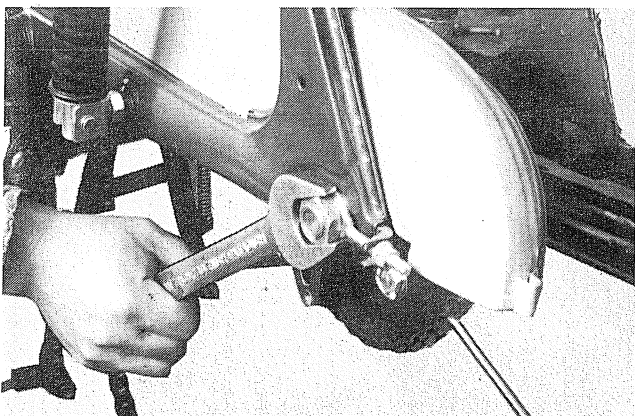

Fig. 4-2-10
- 7) Remove the special hexagon nut and remove the rear clutch ass'y. (Figs. 4-2-10 and 11)